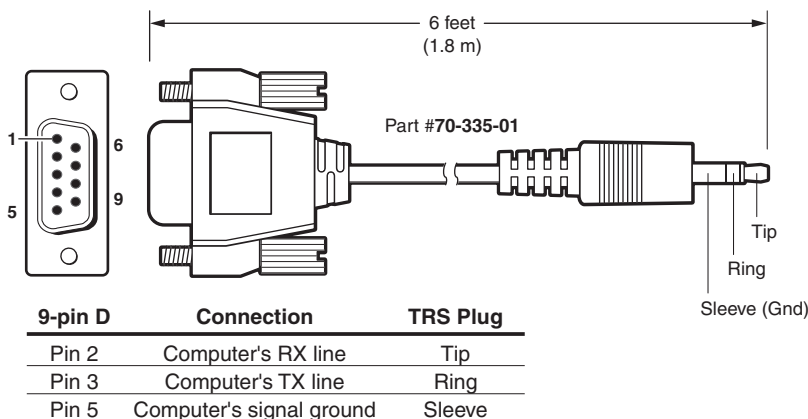

Figure 2-8 — Optional 9-pin TRS RS-232 cable
- ⑨ **Configuration port** — This 2.5 mm mini stereo jack serves the same serial communications function as the rear panel Remote port, but is easier to access than the rear port after the matrix switcher has been installed and cabled. The optional 9-pin D to 2.5 mm mini jack TRS RS-232 cable, part #70-335-01 (figure 2-8), can be used for this connection.